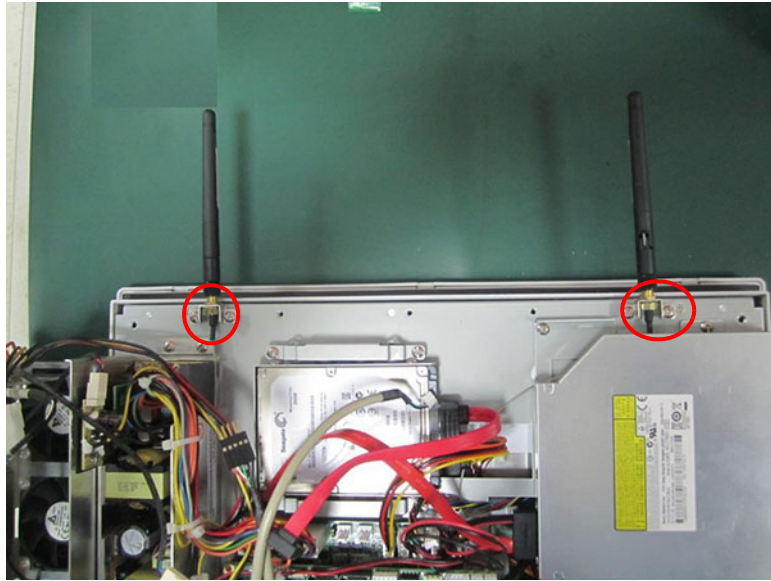

**Figure 2.28**
2. Fixed the antenna onto the bracket. (See Fig.2.28)